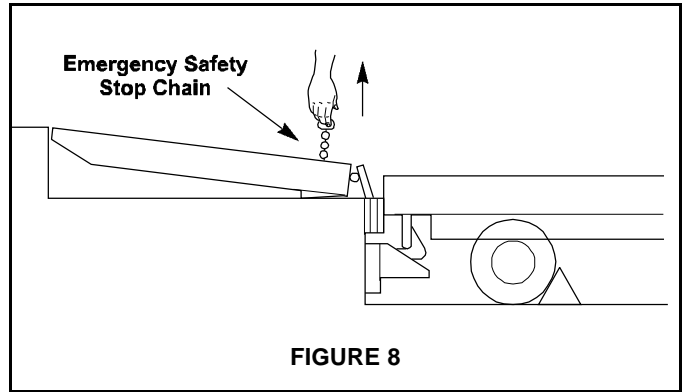

FIGURE 8
3. After the leveler is in the below dock position with the lip pendant, release the emergency safety stop chain. See Figure 8.